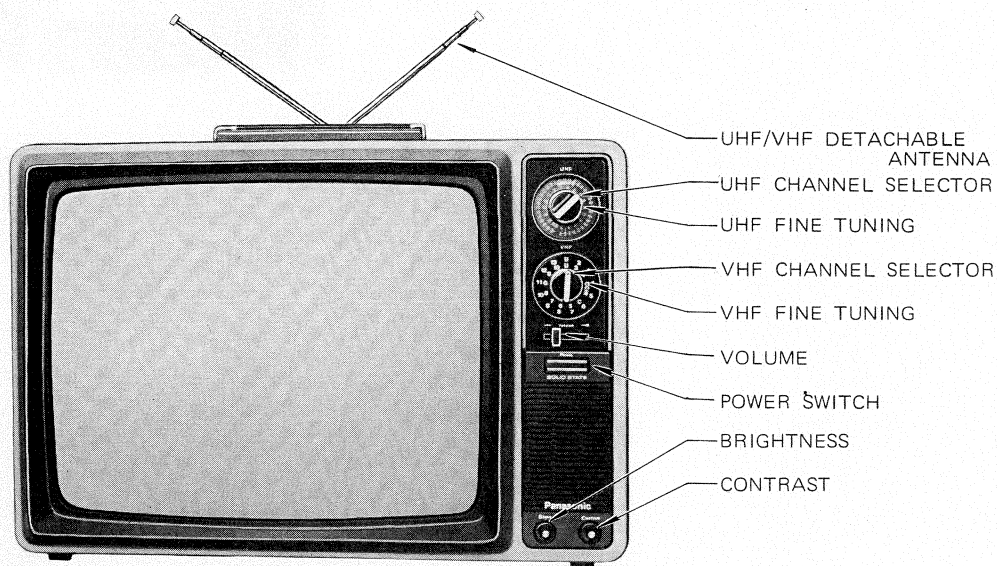

Fig. 1.
- (1) Remove the rear cover.
- (2) Pull off the channel knobs from tuner shaft (See Fig. 1).